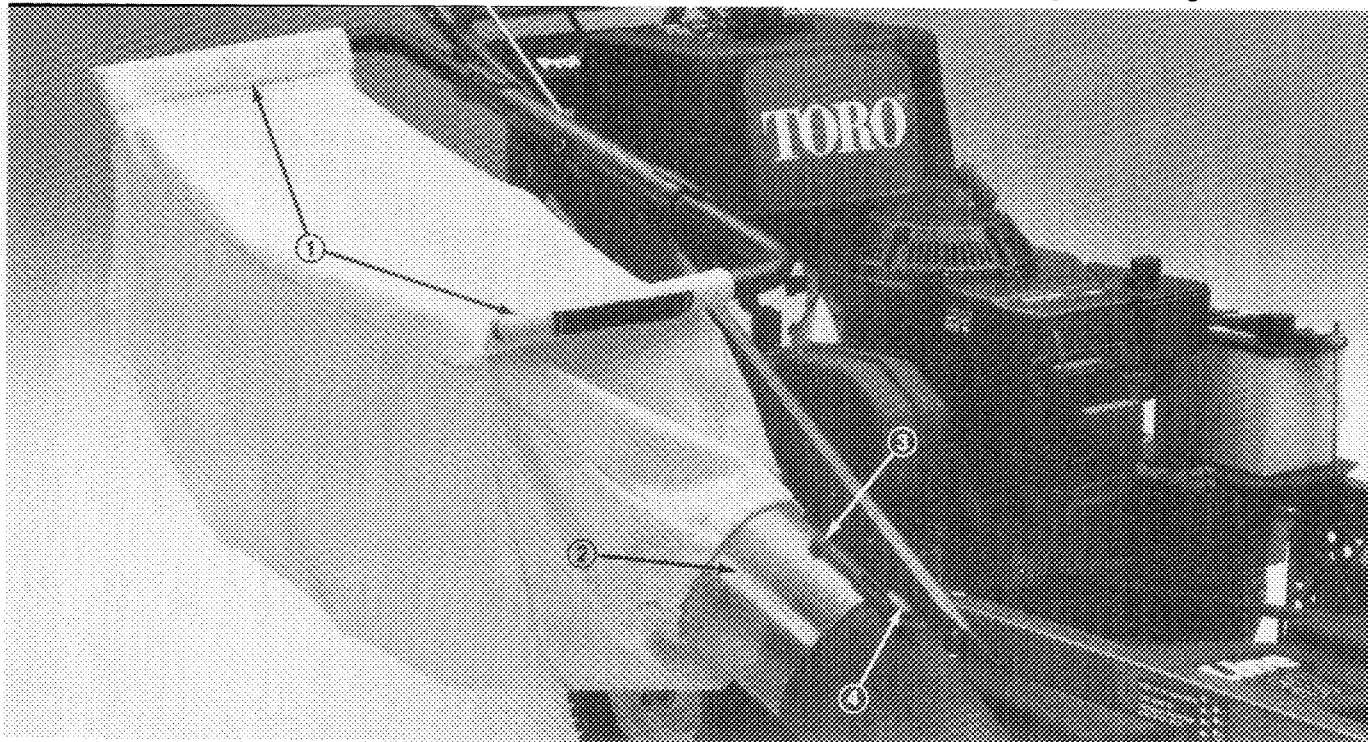

Figure 9
4. Slide bag seams onto bagger frame tubes so bag opening with draw string is positioned to rear of mower (Fig. 9).
7. Slide duct onto chute assembly, aligning duct retainer with chute knob. Hook retainer onto knob, securing assemblies (Fig. 9).